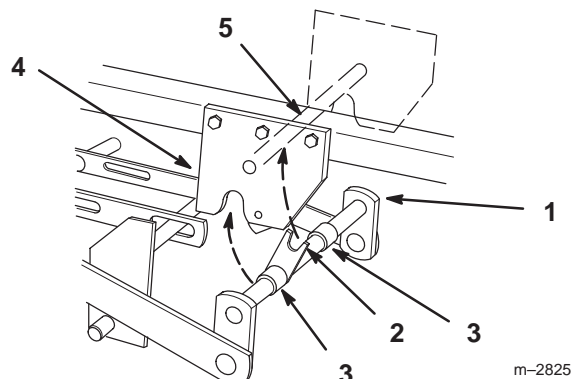

Figure 9
9. Rotate the front mounting shaft so the fork faces straight up and aligned so the spacers are between the mid-mount hitch plates (Fig. 9).
10. Lift the mower with the attachment lift lever or electric lift and guide the fork to capture the hitch rod (Fig. 9).